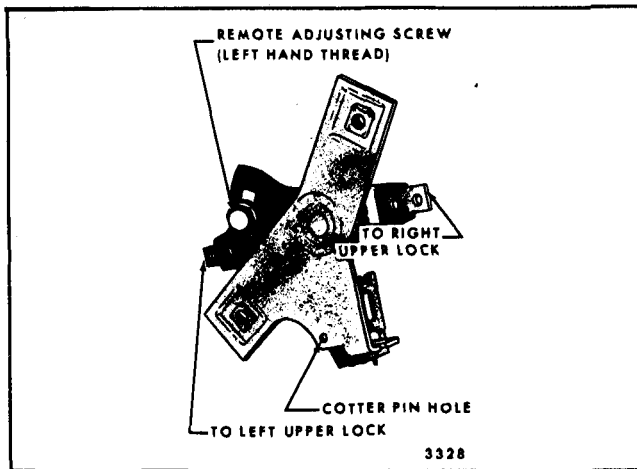

Fig. 9-46-Tail Gate Lock Remote Control-Gate Operation
2. Loosen gate remote control synchronization (adjusting) screw (left hand thread, refer to Figure 9-46). The adjusting screw is used to insure that right and left locks and gate control push rod are synchronized.
3. Install a small nail or cotter pin in gate remote control synchronization (alignment) holes (Figure 9-46). This pin holds all levers in position until final adjustment has been achieved.